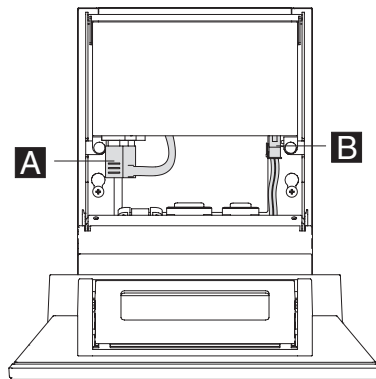

Figure 15. Location of power supply cords (top view of system)
3. Unplug the ac power cord **A** to the power supply, as shown in Figure 15.